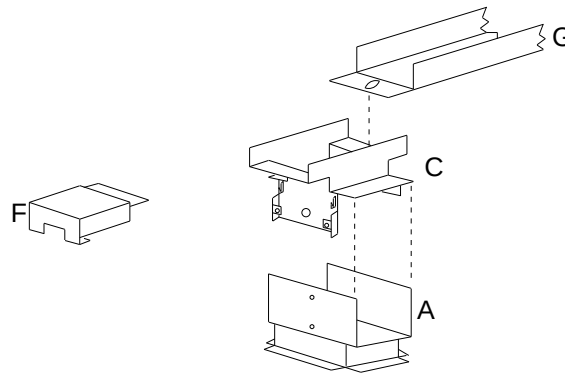

Figure D-6. Mating Cross-Aisle Risers to System 85-R2 Cabinet Risers
2. Replace the shielded coupling with a cross-aisle riser. Set the cross-aisle riser ("C" on Figure D-6) on the cabinet riser ("A"). Position the cross-aisle riser so that the two holes on the back wall line up with the holes on the back wall of the cabinet riser. Bolt the two pieces together at the holes just described.